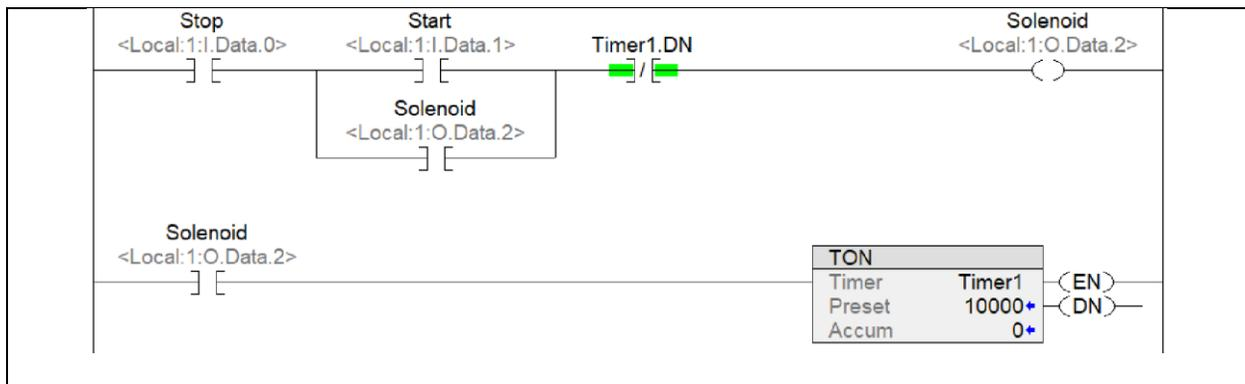

Figure 6. Ladder Routine for Lab5_3_Project1.ACD.
3. Double click on the Lab5_3_Project1.ACD file, which should open the project in Logix Designer. The main routine should have 2 rungs as shown in Figure 6.
5. Explain how the Solenoid output respond, once the Start pushbutton is actuated in the program shown in Figure 6. _____